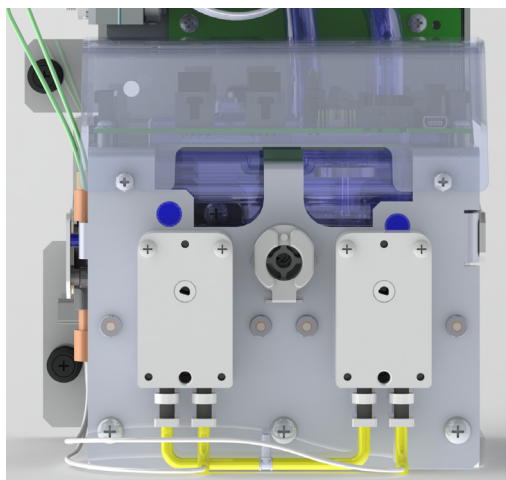

Figure 18: Viewing the Reservoir Water Level
- View the reservoir water level and verify that the water level reaches **JUST BELOW** the top of the reservoir, as shown in Figure 18.